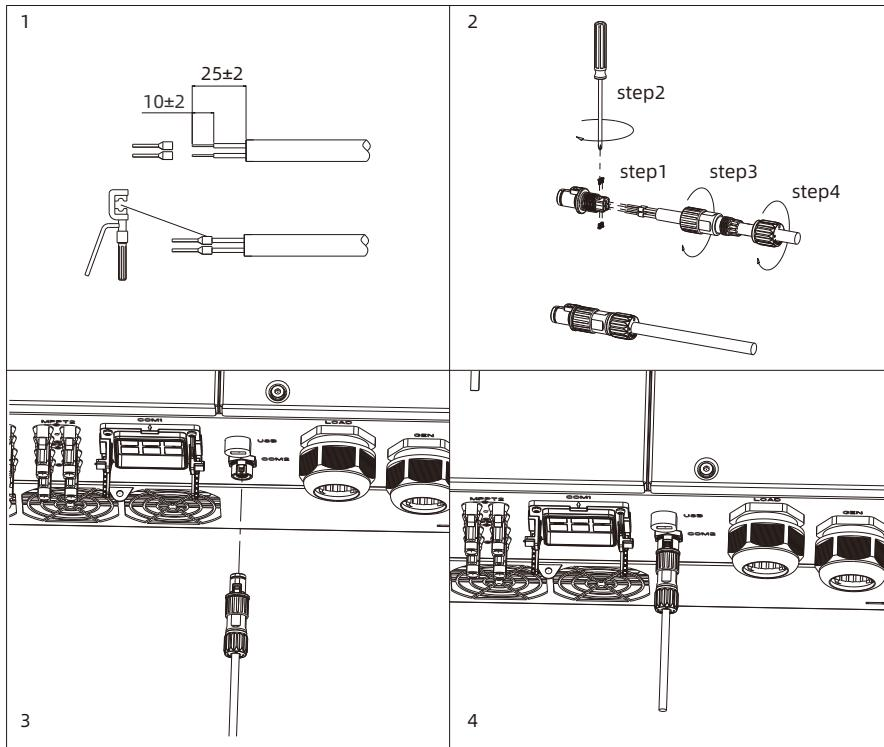

Fig 6.21 Connecting to the COM2 terminal
3. Connect the COM2 cable to the COM2 terminal on the inverter, as shown in Fig 6.21;